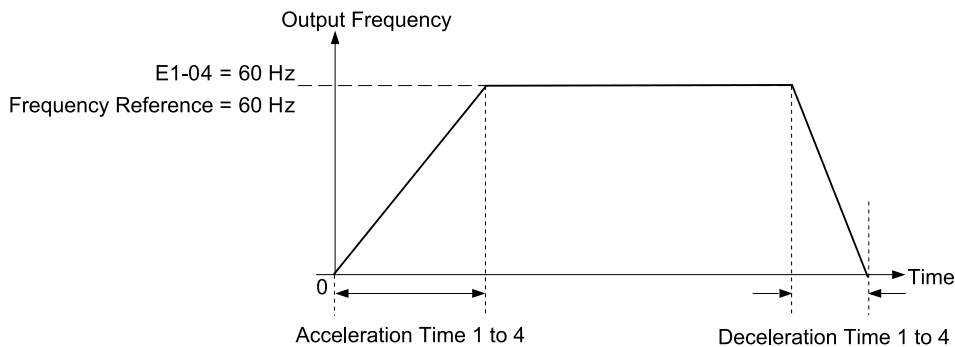
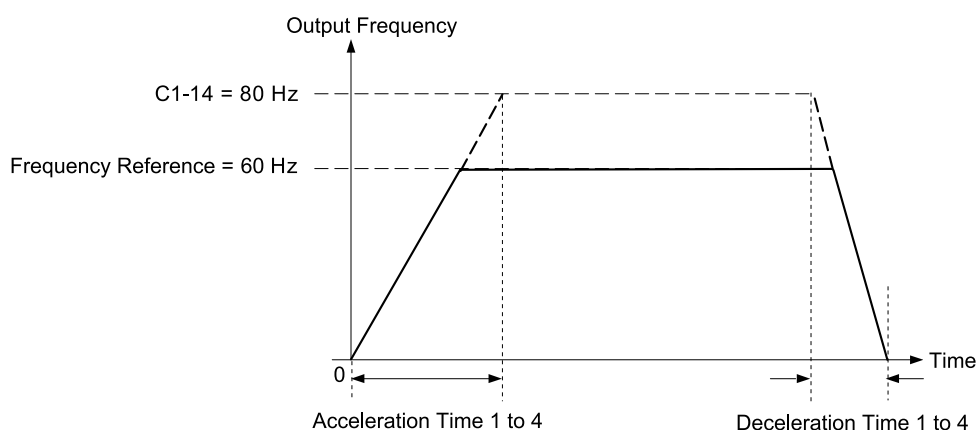

Figure 12.41 Example 1: Acceleration/Deceleration Rate (When C1-14 = 0 Hz, E1-04 = 60 Hz, and the Frequency Reference is 60 Hz)
Figure 12.43 Example 3: Acceleration/Deceleration Rate (When C1-14 = 80 Hz, E1-04 = 60 Hz, and the Frequency Reference is 60 Hz)
- Figure 12.41 to Figure 12.43 show the accel/decel times when C2-01 to C2-04 [Jerk@Start of Accel, Jerk@End of Accel, Jerk@Start of Decel, Jerk@End of Decel] = 0.00 s.